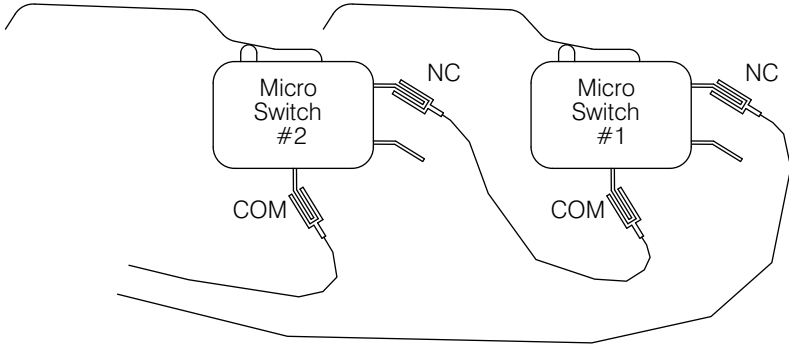

Figure 1
4. Locate micro switches #1 and #2 that are wired in series on the micro switch assembly (Figure 1).